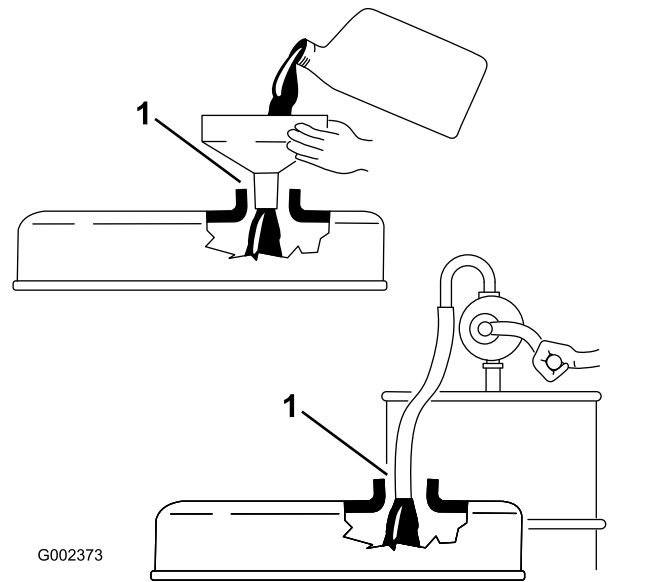

Figure 43
**Important:** When adding engine oil or filling oil, there must be clearance between the oil fill device and the oil fill neck in the valve cover as shown in Figure 43. This clearance is necessary to permit venting when adding oil.